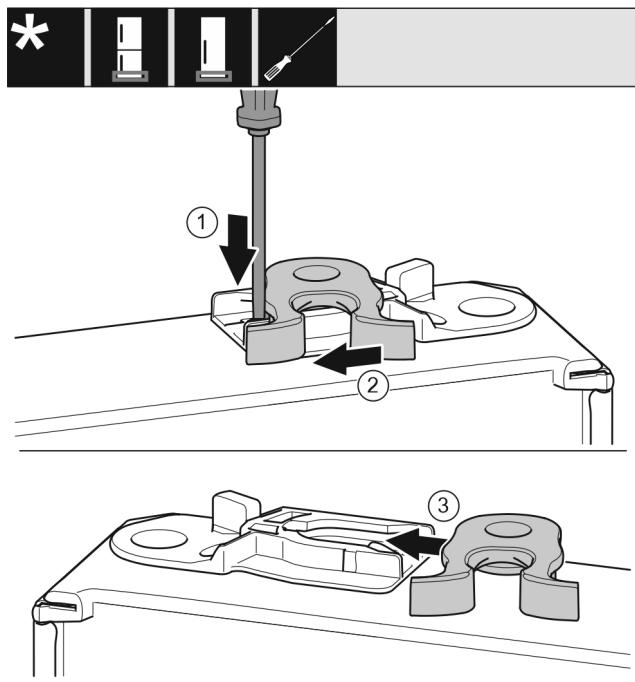

Fig. 20
- ▶ Use a slotted screwdriver to push the tab *Fig. 20 (1)* downward.
- ▶ Pull the closing hook *Fig. 20 (2)* out of the guide on the other side.
- ▶ Push the closing hook *Fig. 20 (3)* to the other side in the guide.